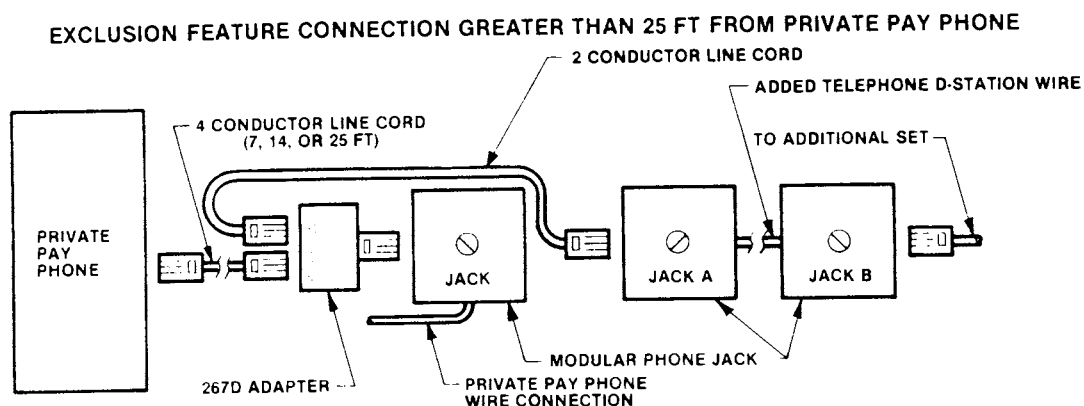

Figure A-2. Wiring For Over 25-Ft. Distance Between Telephones
- Two RJ14 telephone jacks (not including Private Pay Phone telephone jack). Refer to Figure A-2.
1. Implement the wiring layout shown in Figure A-2 below.